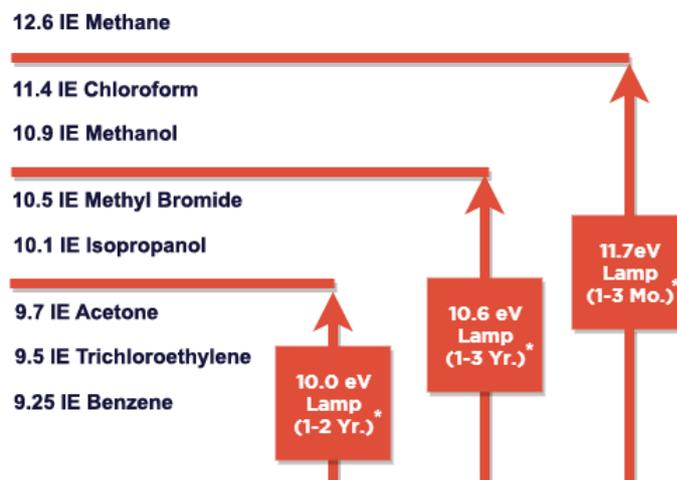

Figure 2: PID lamp energy thresholds
The choice of UV lamp, central to the PID's measurement depends on the application. Figure 2 illustrates that a lamp can only detect those compounds with ionization energies (IE) equal to or below that of the lamp. Thus, a 10.6 eV lamp can measure Methyl Bromide with an IE of 10.5 eV and all compounds with a lower IE, but cannot detect methanol or compounds with higher IE. When only one compound is present, one can use any lamp with enough energy, often the standard 10.6 eV lamp which has a lower cost point and has a long working life of up to a few years. Conversely the 11.7 eV lamp has a short life of only a few months.
However, it can be seen that benzene has a low IE value as shown in Figure 2 and it is often present in a 'cocktail' of other aromatics and hydrocarbons. In this case using a proprietary 10.0eV lamp means that only the aromatics are detected (amongst other gasses that may be present). Should the total aromatic compounds (TAC) be above the regulatory limit further investigations can be undertaken with a portable device such as an Ion Science Tiger Select.